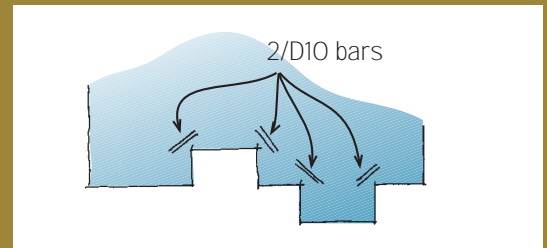

Figure 2: Additional reinforcing at bays or insets
- Internal corners need additional reinforcing bars (2 No. D10's, each 1.2m long) see Figure 2. The additional steel must not cross shrinkage-control joints. Where they would cross shrinkage-control joints, leave them out.